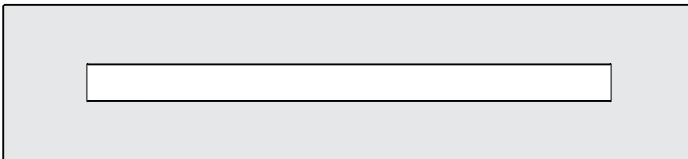

Figure 4
1. Apply the crushed glass to the shaded area only. **See Figure 4.** Use enough to cover the floor of the fireplace, but do not allow the media to reach higher than the flange surrounding the burner. Never place decorative media inside the glass panel surrounding the burner itself. This fireplace uses crushed glass. Accent glass droplets (1/2 inch) or glass drops (1 inch), and ceramic fiber logs, rocks and pebbles. Mix colors and glass types, but do not exceed the recommended amount of decorative media.